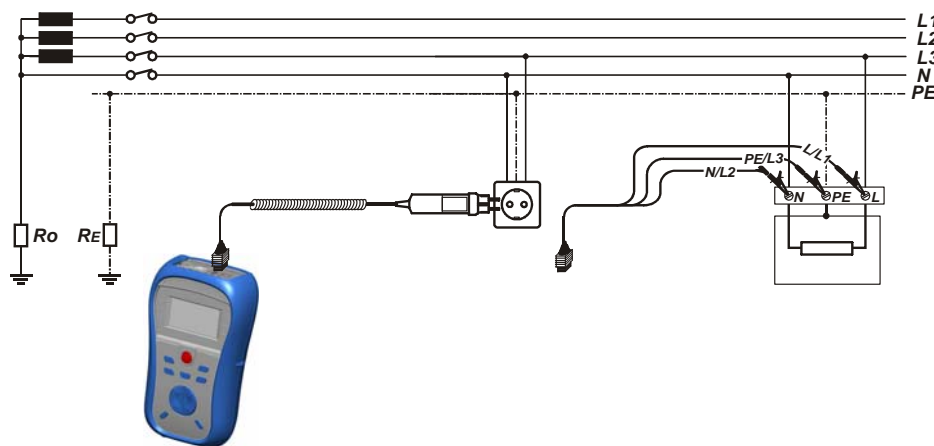

Figure 5.29: Connection of plug cable and universal test cable
- ❑ **Connect** test leads to the item to be tested (see figures 5.29 and 5.22).